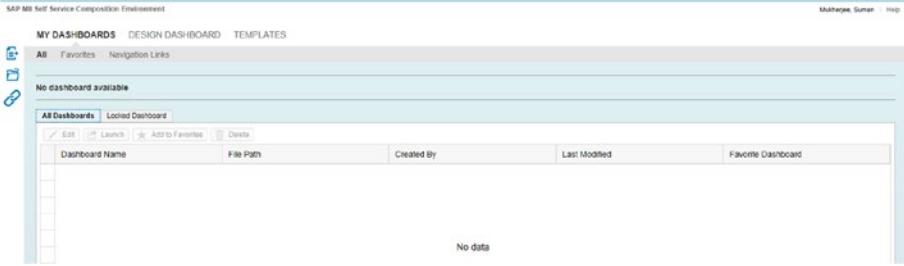

Figure 3-35. The My Dashboard in SSCE
- *My Dashboards Tab:* A single screen wherein users can find all their dashboards and navigation links. See Figure 3-35.